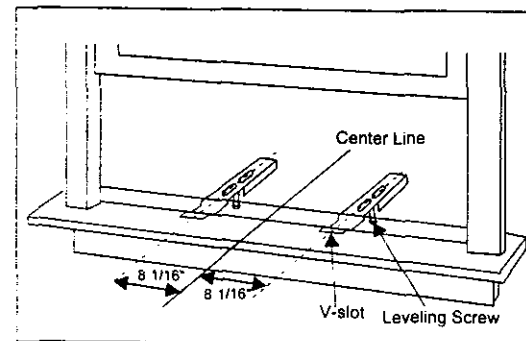
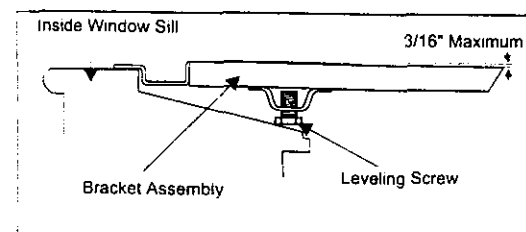

Fig 10
Fig 11
B. Measure the inside window sill width and find the center line as shown in (Fig 10). From this center line, measure $8 \frac{1}{16}$ " on each side and mark these points. Align the V-slot in each bracket on these marks and mount to sill using (2) $\frac{3}{4}$ " screws provided per bracket. Brackets should be perpendicular to the inside window sill. See (Fig 11)
C. Adjust the **leveling screws** until the bracket tilts no more than **3/16"** downward to the outside. Do not allow the bracket to slant inward as condensation could possibly drip on interior walls and floors. See (Fig 11)